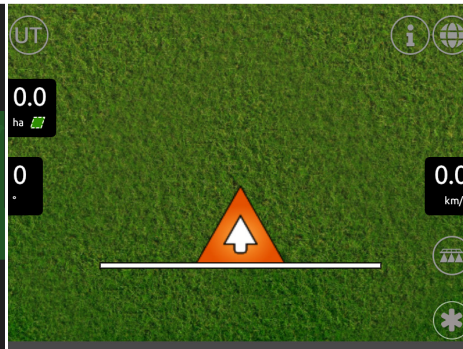

Fig. 128
- When the settings are complete, press **Start** to start the new job (Fig. 128).